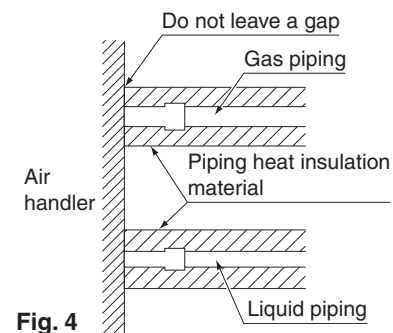

Fig. 4
- (3) After the work is finished, make sure to check that there is no gas leak.
- (4) After checking for gas leaks, be sure to insulate the piping connections referring to Fig. 4.